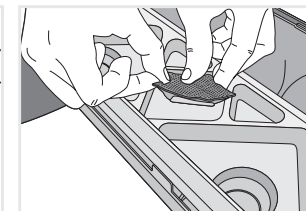

Fig. 3
- Peel off paper strip on the carbon filter to expose the adhesive. Place filter adhesive-side down in diamond-shaped insert in center of waste receptacle lid (Fig. 3). Close waste receptacle compartment cover.